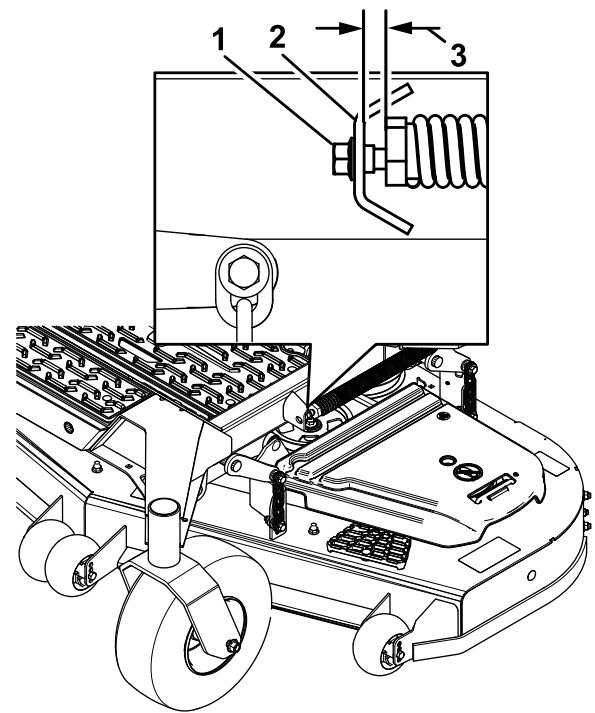

Figure 84
- Slowly loosen the adjusting screw on the lift-assist spring until you can remove the screw (Figure 84).